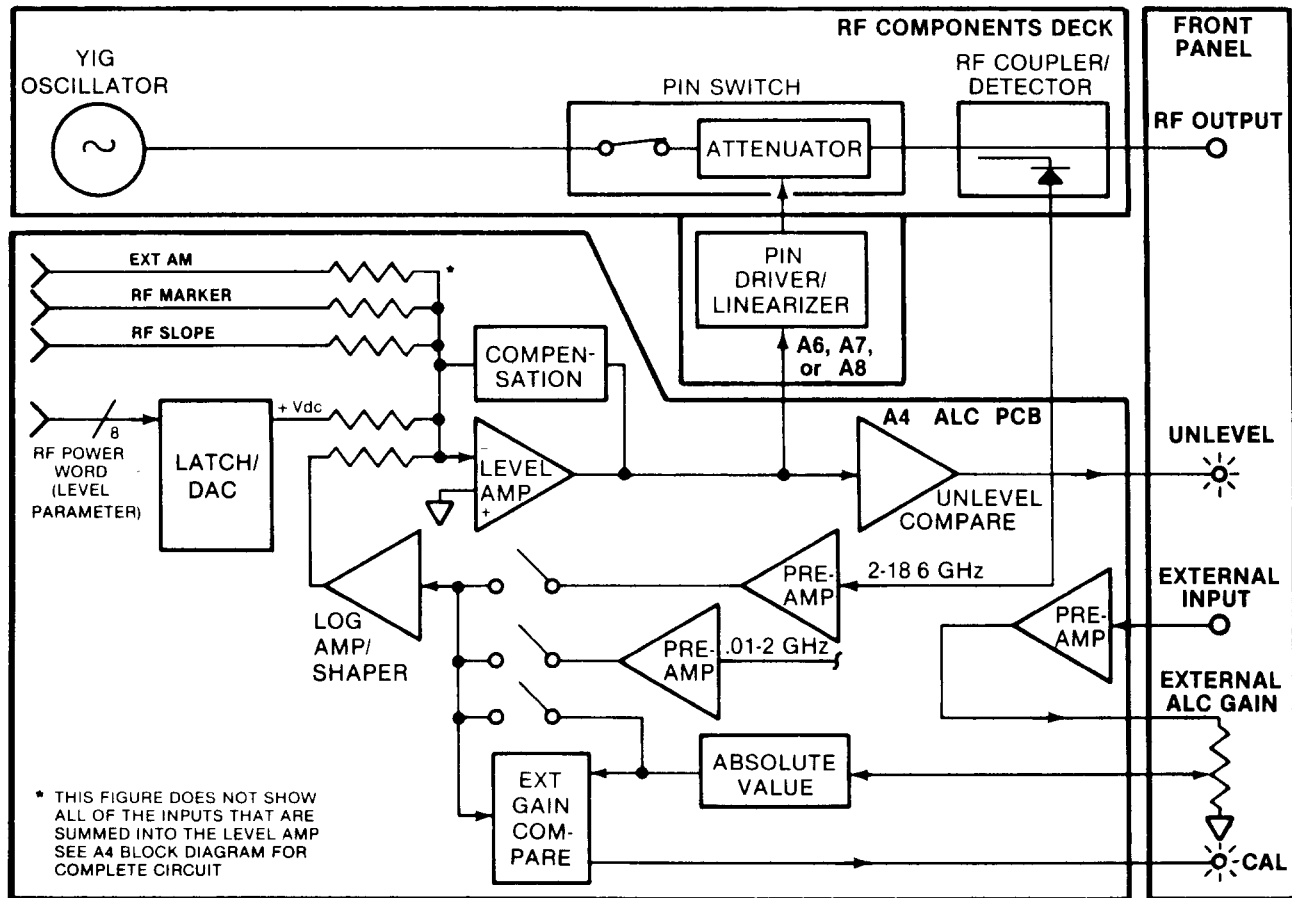

Figure 7-38. Sweep Generator Overall Leveling Loop
The sweep generator ALC loop (Figure 7-38) consists of the following circuits and components:
As shown in Figure 7-38, the output from the RF Oscillator is applied to the RF Coupler/Detector via the PIN Switch. A sample of the RF power signal, which is attenuated by approximately 16 dB, is coupled to the RF detector. If internal leveling has been selected, the detector
- b. Level-Dip Logic Circuit. This circuit (Q2) causes the PIN Switch Attenuator (Figure 7-38) to go to maximum attenuation ("dip" RF power) when any of the following occurs: